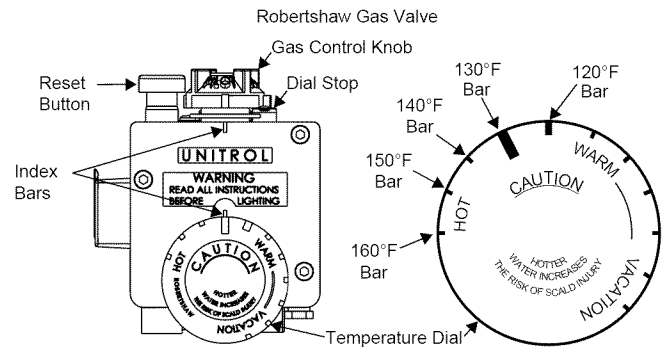

FIGURE 21.
**HOTTER WATER CAN SCALD:** Water heaters are intended to produce hot water. Water heated to a temperature which will satisfy space heating, clothes washing, dish washing, and other sanitizing needs can scald and permanently injure you upon contact. Some people are more likely to be permanently injured by hot water than others. These include the elderly, children, the infirm, or physically/mentally handicapped. If anyone using hot water in your home fits into one of these groups or if there is a local code or state law requiring a certain temperature water at the hot water tap, then you must take special precautions. In addition to using the lowest possible temperature setting that satisfies your hot water needs, a means such as a mixing valve should be used at the hot water taps used by these people or at the water heater. Mixing valves are available at plumbing supply or hardware stores. Follow manufacturer's instructions for installation of the valves. Before changing the factory setting on the thermostat See Figures 21 and 22.
Align the index bar on the thermostat with the desired water temperature as shown in Figure 21.